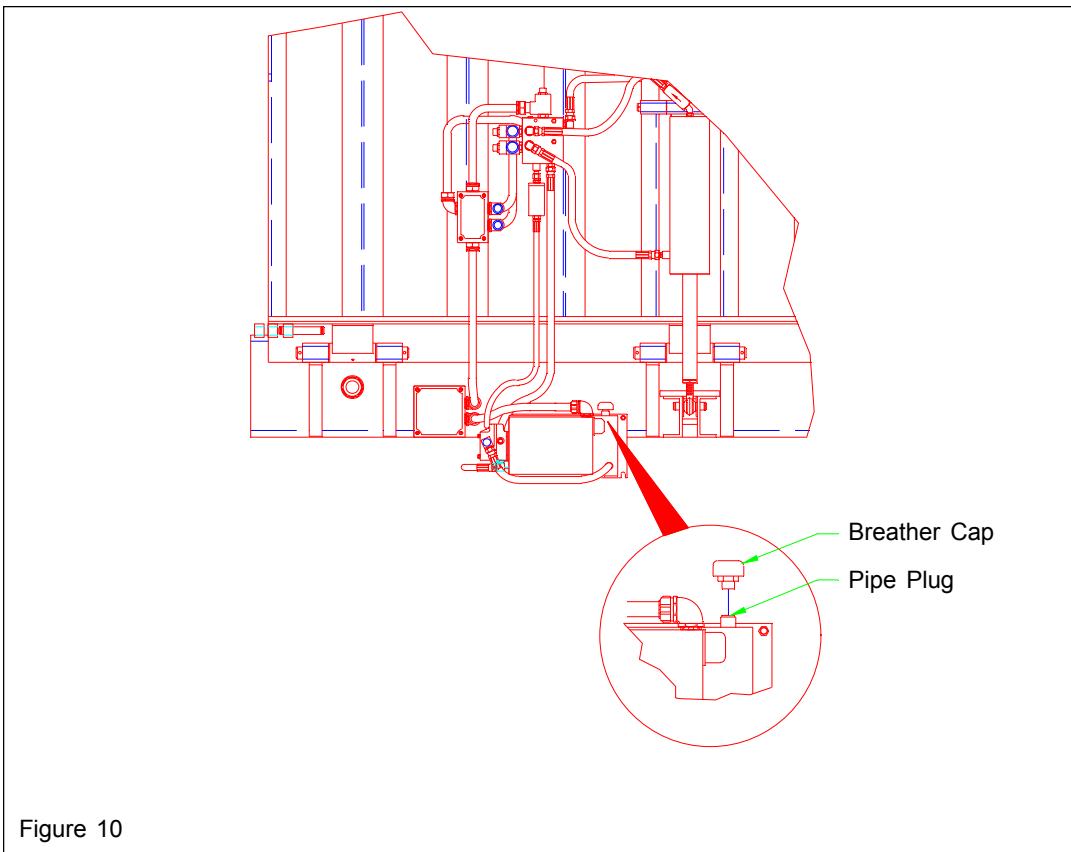

Figure 10
8. Remove 3/8" NPT pipe plug from top of reservoir and replace with breather cap (See Fig. 10).